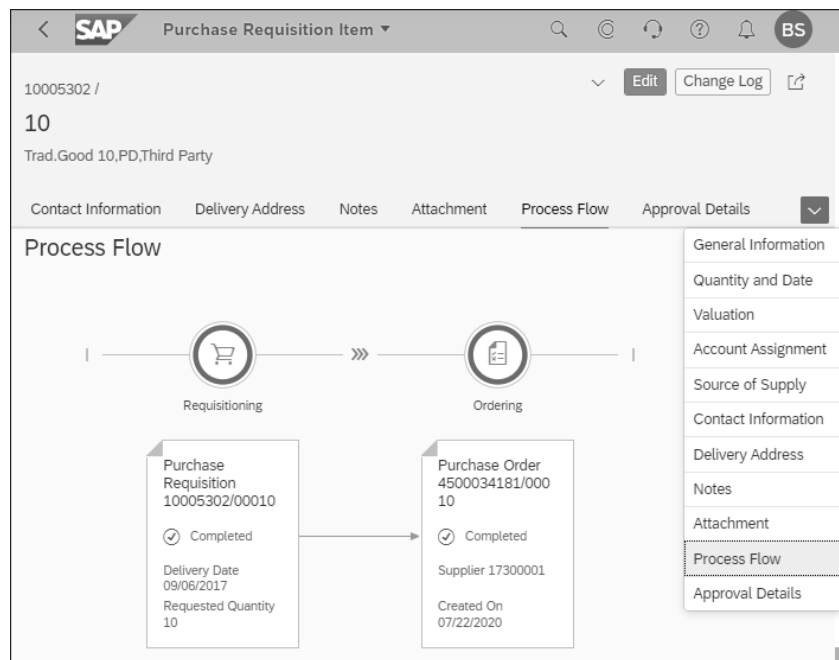

Figure 8.16 Purchase Requisition Item: Process Flow
By selecting the header section of this card, you can navigate to the Process Purchase Requisitions app to get the details of all the purchase requisitions that are open and assign sources of supply to create follow-on documents. You can also navigate directly to the purchase requisition item by selecting the item from the list. We've selected the requisition item 10005302/10, which is highlighted in the figure for illustration purposes, and checked the list of follow-on documents that are created using the **Process Flow** tab (see Figure 8.16). Using different tabs of the purchase requisition item, you can create purchase orders, purchasing contacts, and requests for quotations. You can also use the **Source of Supply** option to use a fixed supplier for this requisition item. Once these activities are completed, you can navigate back to the procurement overview page to analyze other requisition items that need to be addressed.